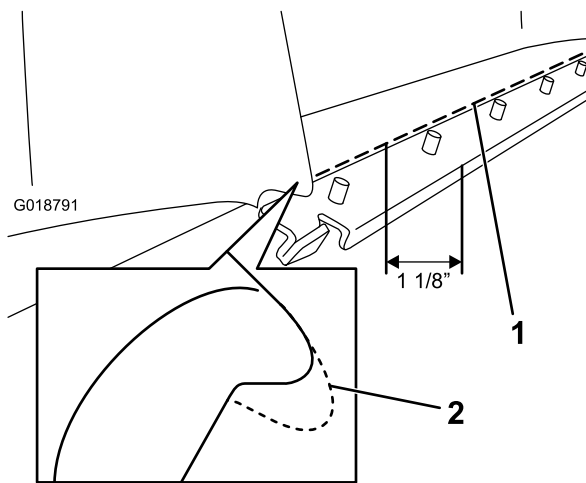

Figure 1
1. Cut the old basket strip off of the basket 2.85 cm (1-1/8 inches) from the front edge of the bracket (Figure 1).
2. Square off the front lip of the basket near the previously removed basket bracket (Figure 1).